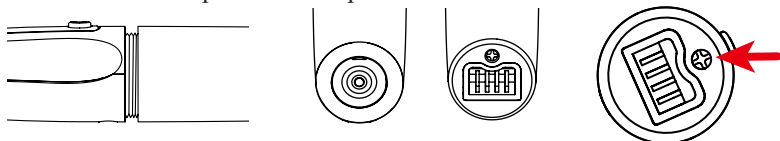

Figure 9 Error code
5. Under ON state, if the Work Tip hasn't been installed or is in poor connection, there would be an error code on display screen as shown in Figure 9.